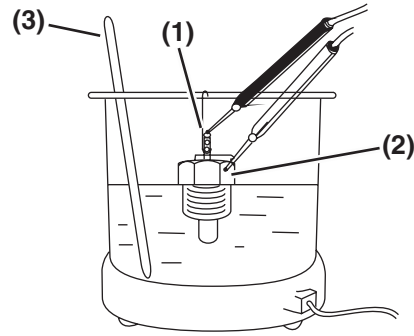

Figure 8-9
1. Check for proper operation of the temperature switch. Connect a continuity light or ohmmeter to the temperature switch. Connect one lead to the terminal of the switch (**Figure 8-9, (1)**) and the other lead to the metal portion of the switch (**Figure 8-9, (2)**).
2. Place the temperature switch and an accurate thermometer (**Figure 8-9, (3)**) in engine coolant.